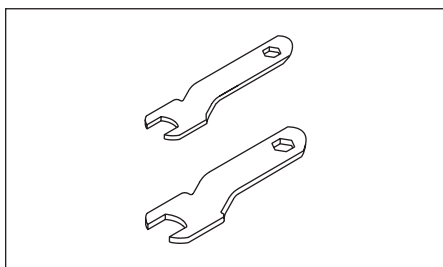

Figure 3 - Wrenches
2. **Securely tighten collet with wrenches (supplied with some models) (See Figures 3 & 4).** Apply one wrench to the collet nut and the other to the spindle. Turn the wrench on the collet nut to the right, simultaneously turning the other wrench in the opposite direction. Make sure stem does not slip out of position.